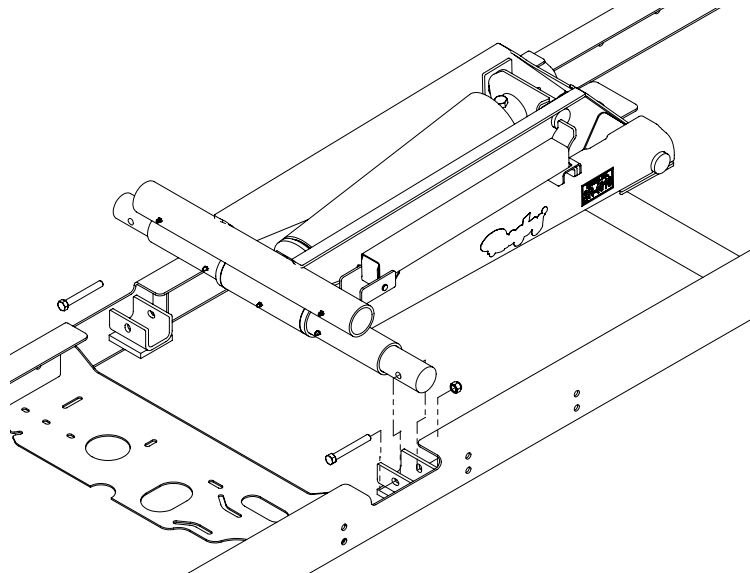

Figure 7
3. Secure the saddle shaft to the sub-frame with the provided hardware as shown in **Figure 7**. Refer to **Figure 3** for torque guidelines.